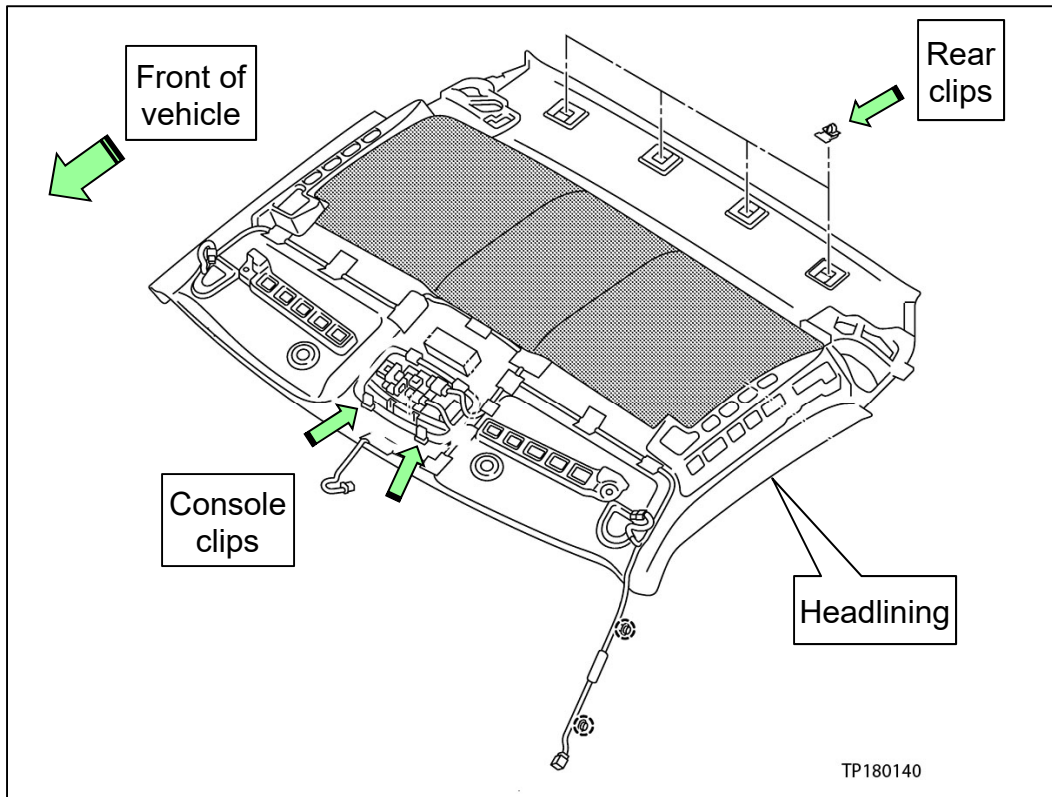

Figure 37
30. Unfasten the roof center console clips (see Figure 37 and 38).
31. Unfasten the rear headlining clips (see Figure 37 and 39).